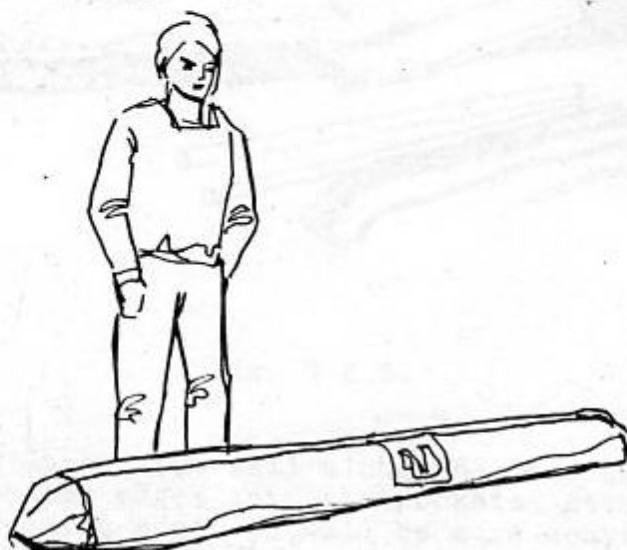

Fig. 3.3.1.
1. With the glider in the bag lay the glider on the ground (Fig. 3.3.1).